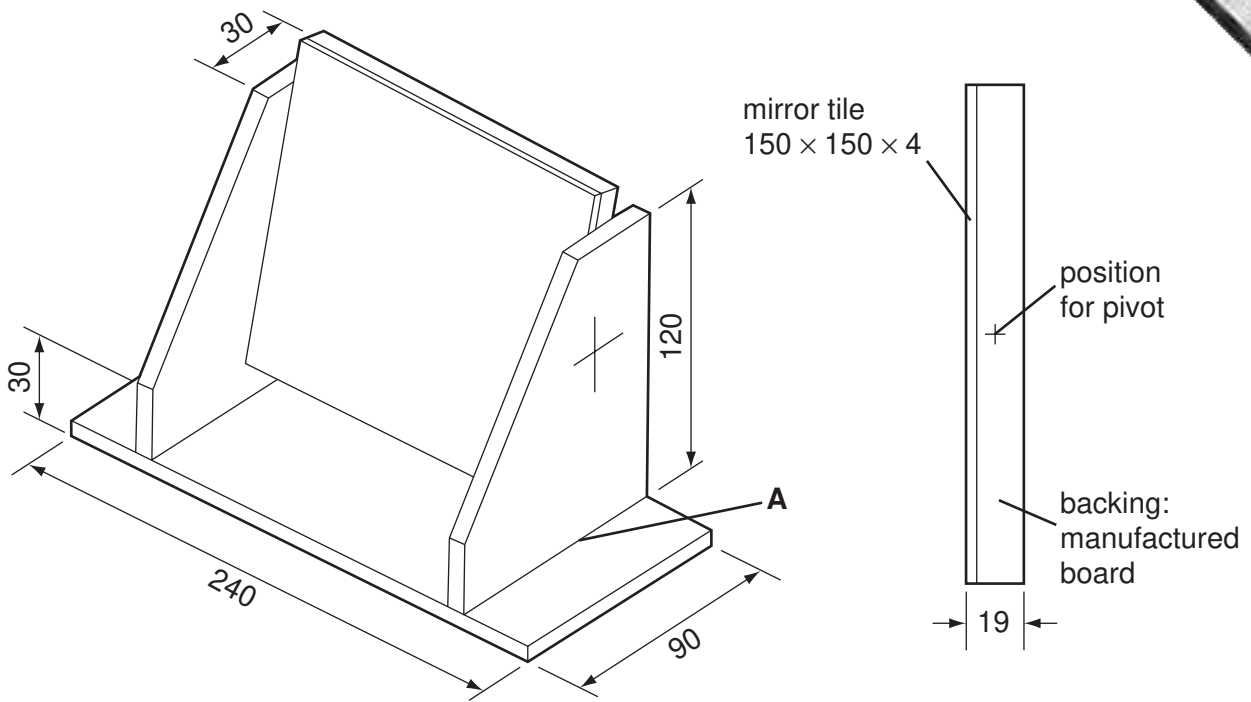

Fig. 1
- 1 Fig. 1 shows the basic design for an adjustable mirror. The side view shows details of the mirror tile and its backing material.